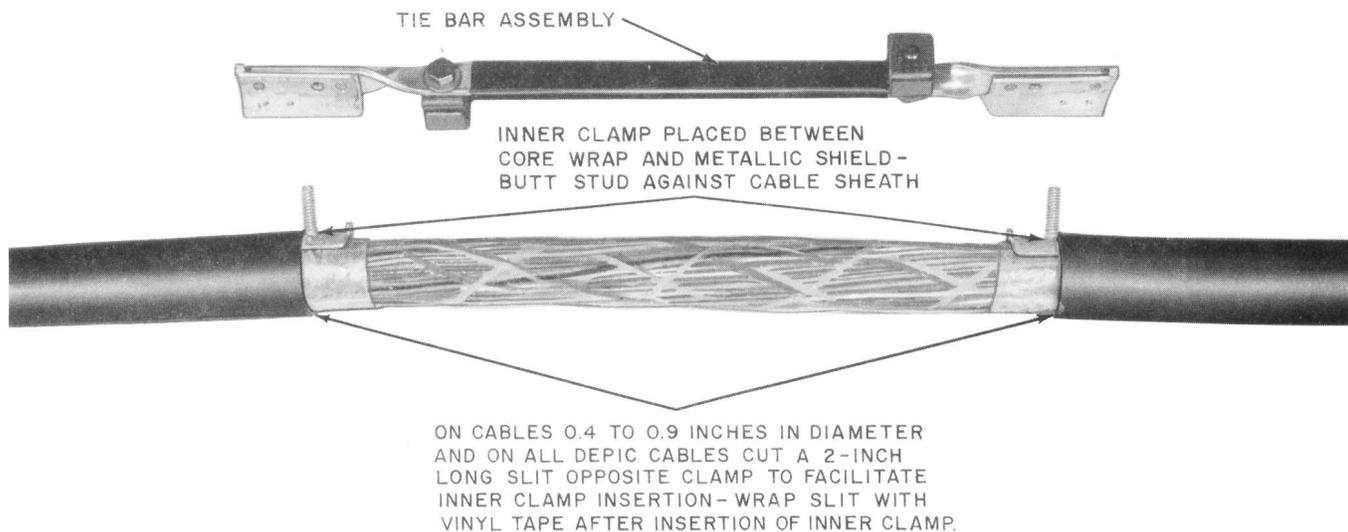

Fig. 5—Installed Inner Clamp
3.03 Remove the inner clamp from the tie bar assembly and position between aluminum shield and core wrap (Fig. 5).